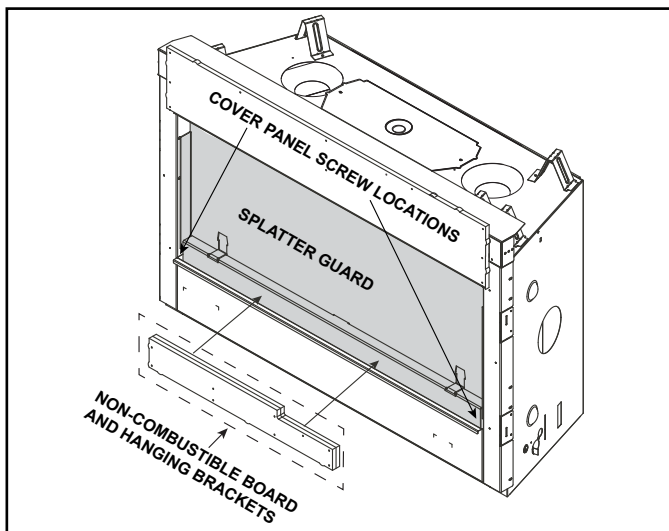
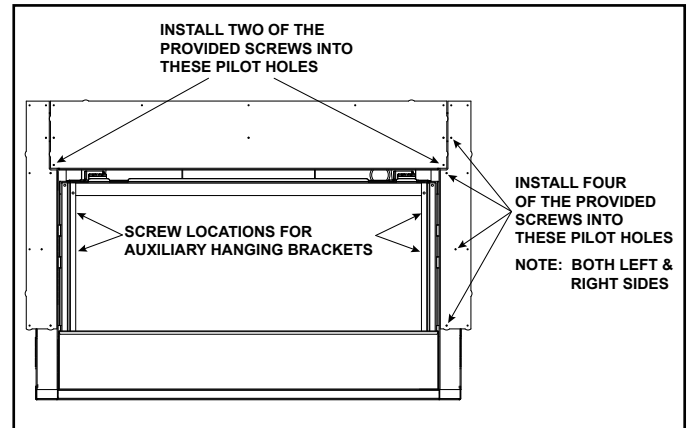
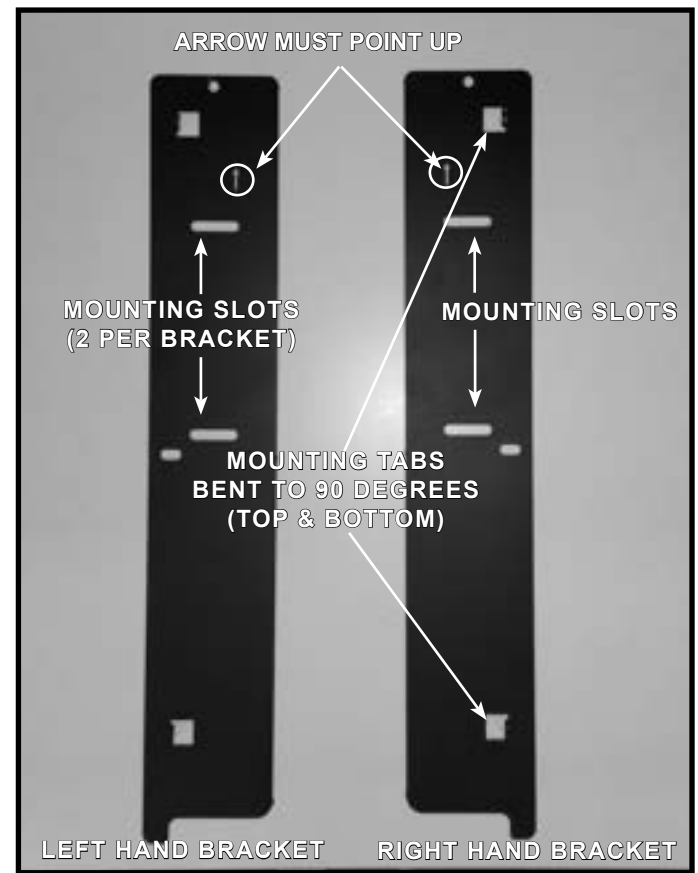

Figure 6.7 Shipping Position - Non-Combustible Sides and Auxiliary Hanging Brackets
Figure 6.8 Installation of the Side Non-Combustible Components
Figure 6.9 Auxiliary Hanging Brackets - Bent For Installation
4. Further secure the top non-combustible board by installing screws into the pilot holes located in the upper left and right corners of the top non-combustible board as shown in Figure 6.8.
5. Install the left and right non-combustible components with four of the provided Phillips screws. See Figure 6.8. After all non-combustible material has been installed, remove the small package of sheet metal screws from the manual bag. Reinstall the lower cover panel. Be sure to “hook” it onto the appliance. Use two screws from the package to fasten the top sides of the cover panel to the appliance. The holes from the cover panel should align with the holes in the sides of the appliance. See Figure 6.7.
1. Loosen both shoulder bolts on each auxiliary hanging bracket. See Figure 6.8 and Figure 6.9. Pull the brackets away from the appliance to aid with finishing material installation.